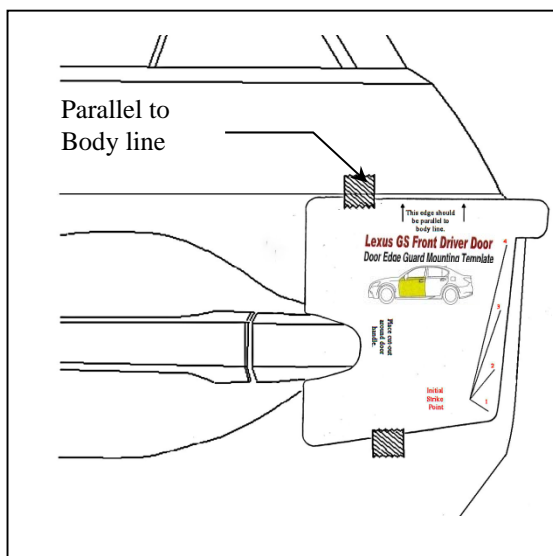

Fig. 1-3
- (ii) Select the rear door template and fit the notch around the door handle. Adjust as needed to ensure it is parallel to the body line directly above the template. If needed, tape it into place using painter’s masking tape (Fig 1-3).